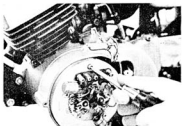

Fig. 4-1-5
2) Remove the stator assembly. (Fig. 4-1-5)